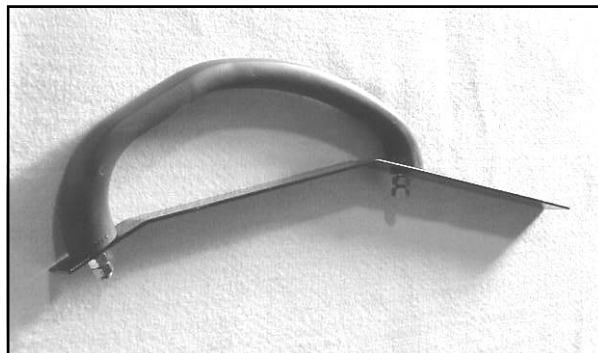

Fig. 1.1 (grab handle)
1.1 Per fig. 1.1, remove the grab handle, the sheet metal support bracket, and the hex nuts as shown. This will not be re-installed with a cab in place.